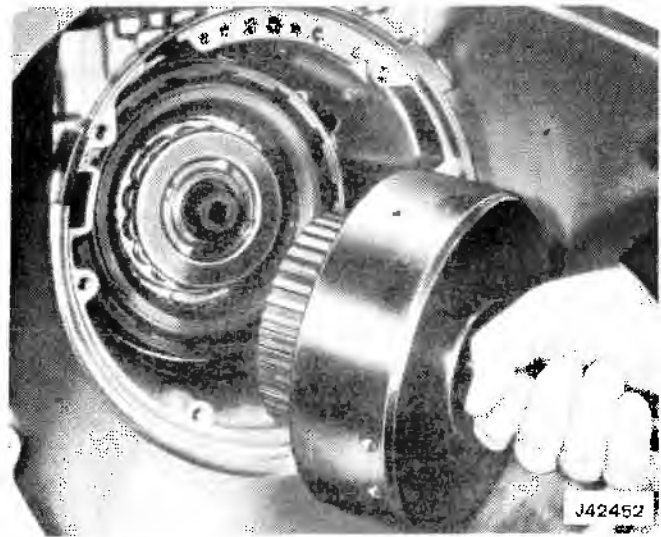

Fig. 7-22 Removing-Installing Forward Clutch Assembly
- (6) Remove forward clutch assembly and turbine shaft from transmission case, as shown in Fig. 7-22.
- (7) Remove forward clutch hub to direct clutch housing.